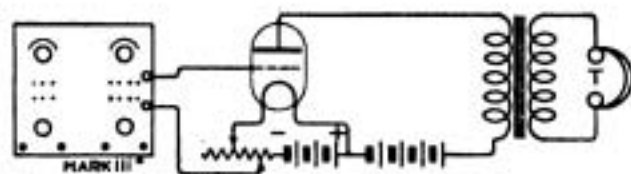

Fig. 5.
H.P. (Liverpool) asks (1) Is an Edison valve (E.S.2) suitable to work in conjunction with a Mark III short wave tuner. (2) For a diagram showing how to connect up the valve to two terminals marked "valve" on the tuner. (3) If this valve is not suitable, could we recommend one. (4) If the resistance of the telephones is in any way wrong for use with Mark III tuner, when wound to 3,000 ohms.
(1) Yes.
(2) You will notice that the detector change-over switch has to be raised to make contact with the tall contacts. (Fig. 5).